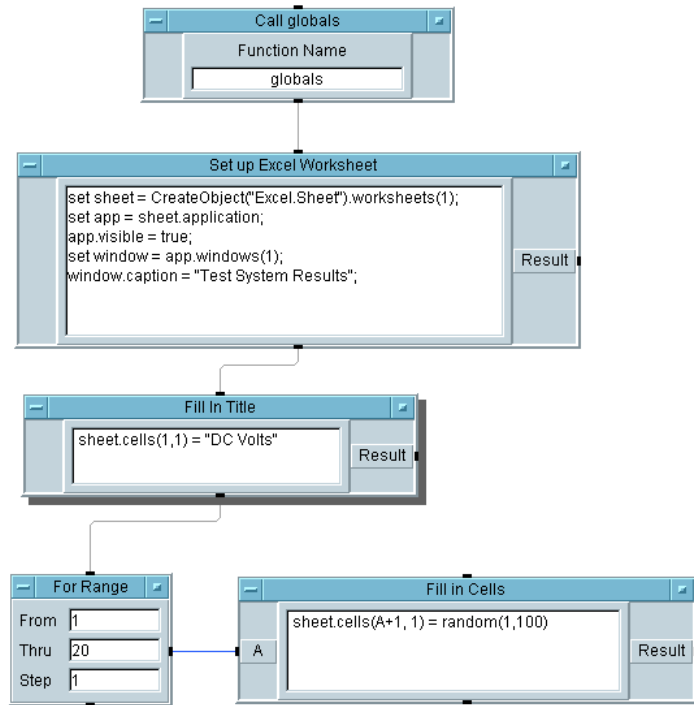

Figure 156 Adding the Title and Data to the Sheet
- 9 Create a Formula object (under **Device** ⇒ **Formula**). Clone the Formula object to create a second Formula object. Create a For Range object (under **Flow** ⇒ **Repeat** ⇒ **For Range**). Rename the objects, connect them, and configure them as shown in Figure 156. (Be sure to delete the input terminal on the Formula object **Fill in Title**.)